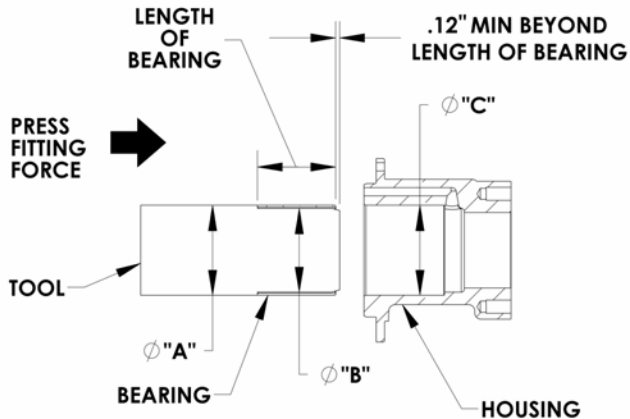

Figure 8 – Sleeve Bearing Installation
To aid in the installation of the sleeve bearing (24) the creation and use of a tool similar to the one shown in Figure 8 may be useful.